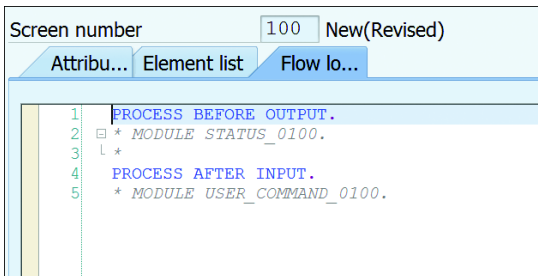

Figure 12.12 Flow Logic Tab
6. The **FLOW LOGIC** tab (see Figure 12.12) allows you to maintain the screen flow logic. The screen events are maintained in the flow logic and are then called by the screen processor. Dialog modules can be called from the flow logic using the **MODULE** statement.